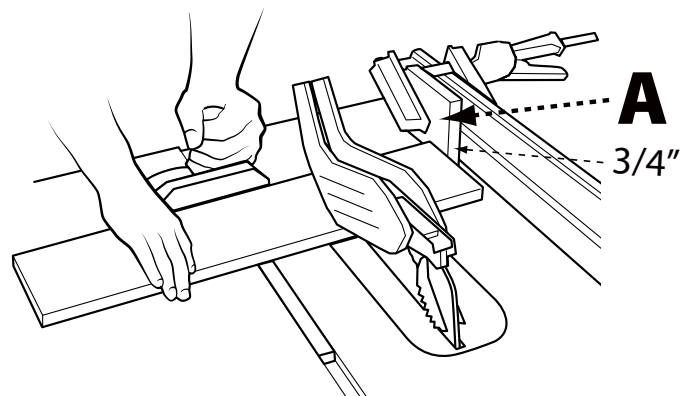

FIGURE 36
When crosscutting a number of pieces to the same length, you can clamp a block of wood (A) (See Figure 36) to the fence and use it as a cut-off gauge. The block (A) must be at least $\frac{3}{4}$ -inch (19 mm) thick to prevent the cut off piece from binding between the blade and the fence. Once the cut-off length is determined, lock the fence and use the miter gauge to feed the workpiece into the blade.